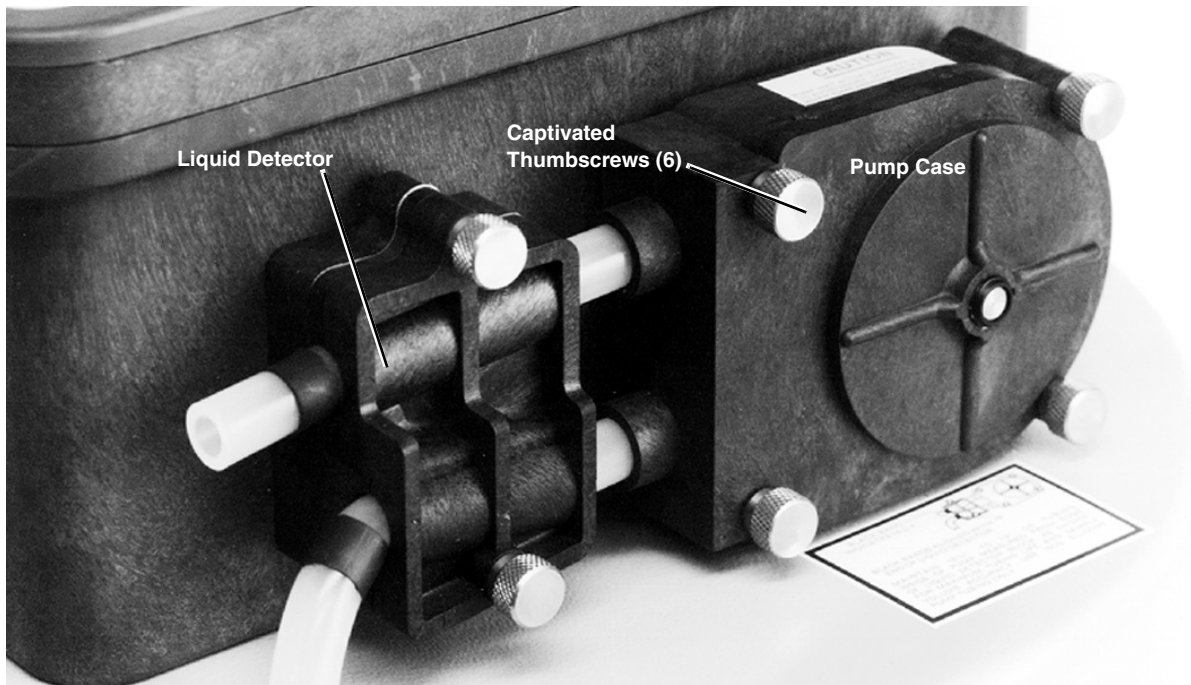
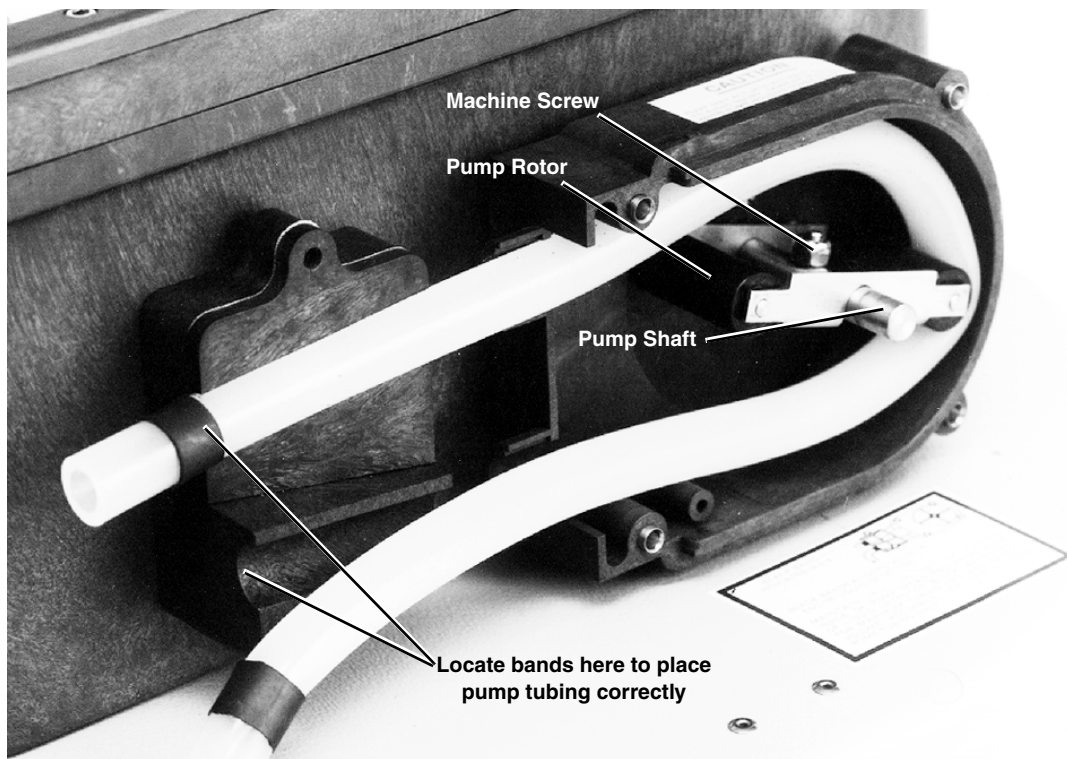

Figure 5-2 Liquid Detector and Pump Housing
Figure 5-3 Interior of Liquid Detector and Pump Housing
4. Turn the center section back over, and detach the outer case of the liquid detector by loosening the two captivated thumbscrews shown in Figure 5-2. Pull the tubing away from the detector.
5. Remove the outer pump lid by loosening the four captivated thumbscrews indicated in Figure 5-2. This will expose the pump tubing which is squeezed between the pump rollers and the curved surface of the inner pump lid as shown in Figure 5-3.
Facing the liquid detector, position the inner edge of the end band against the upper left inlet of the liquid detector. Place the inner band at the lower outlet of the liquid detector. Figure 5-3 shows the correct placement of the tubing.